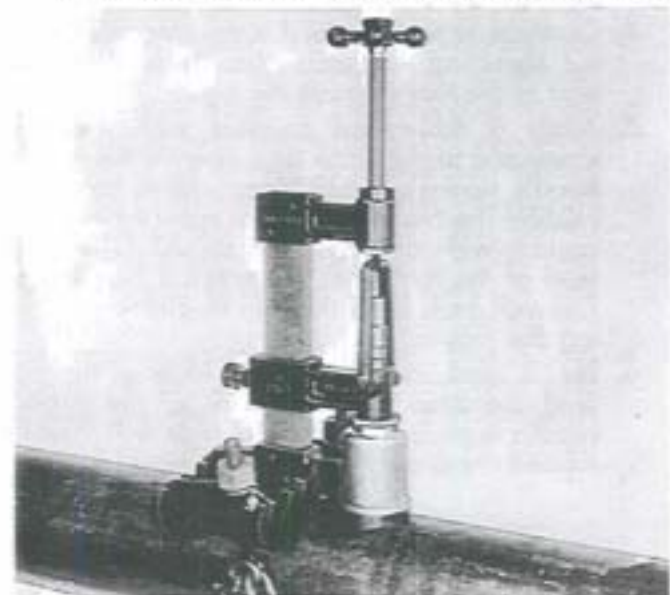

FIGURE 2
14. Turn the feed screw **clockwise** until the feed screw point contacts the countersink in the swinging yoke. Continue feeding downward on the feed screw which forces the tool guide downward making a pressure tight seal between the top of the cylinder and the shank of the tool and also between the bottom of the cylinder and the pipe. **Figure 2.**